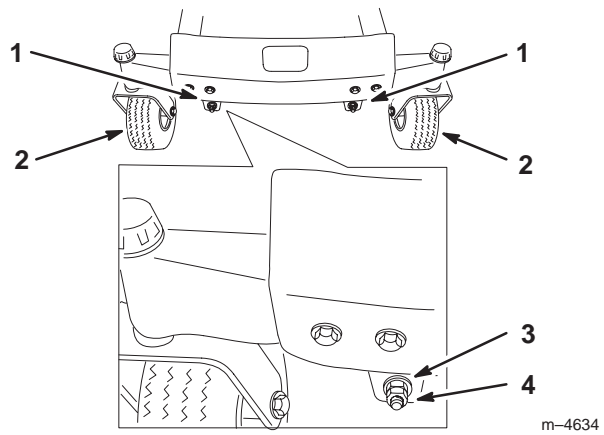
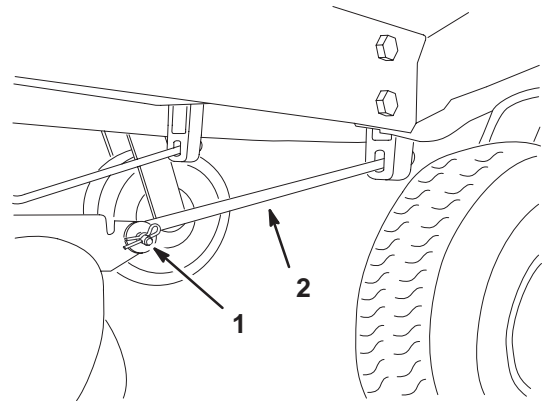

Figure 41
Figure 43
- To adjust the front-to-rear blade slope, remove the locknuts and then rotate the adjustment nuts in the front of the mower (Fig. 41).
- After adjusting both adjustment nuts evenly, check the front-to-rear slope again. Continue adjusting the nuts until the front blade tip is 1/16–5/16 inch (1.6–7.9 mm) lower than the rear blade tip (Fig. 41).
Note: After adjusting the adjustment nuts, make sure there is **no slack** in either support rod (Fig. 43). Tighten either one to remove the slack (Fig. 41).
4. Remove the hairpin cotter and clevis pin from the front support rod on each side of the mower.(Fig. 43).
7. Attach the front support rods to the tractor with the clevis pins and hairpin cotters (Fig. 43).